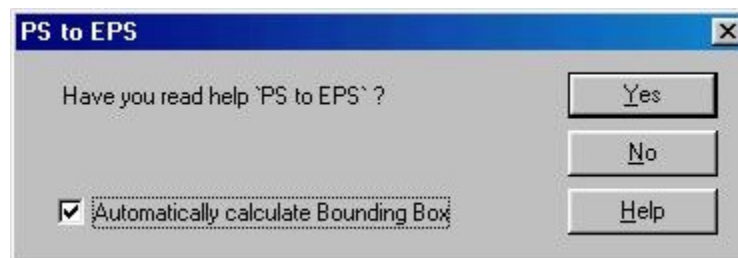

Figure 46c: Select the option “Automatically calculate Bounding Box” in the dialog box.
6. Make sure the option “Automatically calculate Bounding Box” is selected as shown in Figure 46c